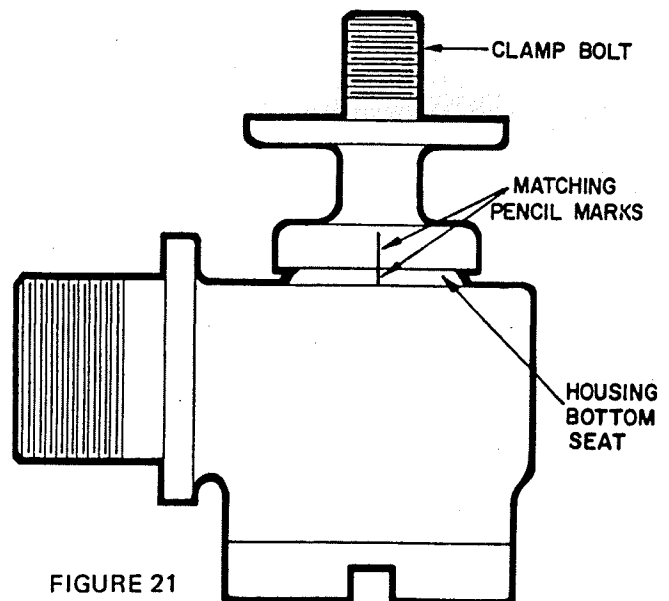

FIGURE 21
- d. Place pencil or ink mark on side of clamp bolt and a matching mark on side of housing bottom seat (see Fig. 21).
g. Rest partially assembled valve on top of seat (1).
h. Place diaphragm (two thicknesses – 11) between upper (thicker – 10) and lower (thinner – 12) diaphragm plates, aligning diaphragm holes (in particular the hole for water passage through the cored inlet). Install new clamp bolt gasket (8).
i. Place relief valve spring (9) on housing.
j. Center diaphragm (11) and plates (10, 12) over clamp bolt (7). Press down on lower diaphragm plate to compress spring, and replace clamp bolt nut (13). Tighten firmly with wrench.